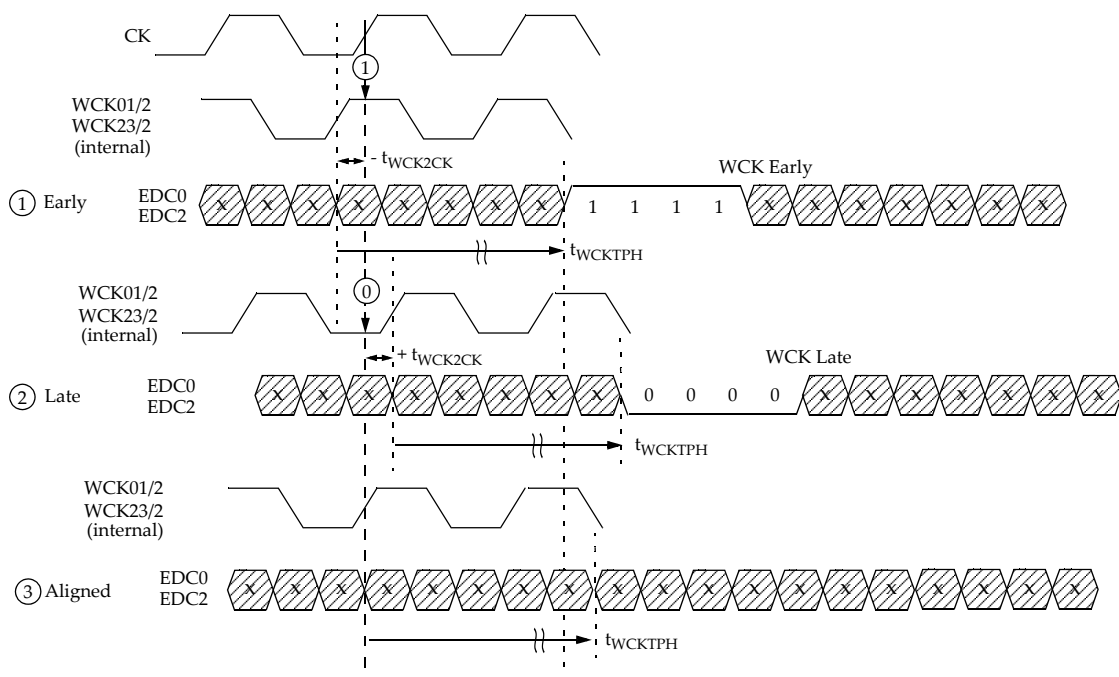

Figure 14 — EDC Pin Behavior for WCK2CK Training (Assumes '1111' as EDC Hold Pattern)
Figure 14 illustrates how the WCK phase information is derived. The phase detectors (PD) sample the internally divided-by-2 WCK clocks. Only one sample point is shown in the figure for clarity. In reality, when WCK2CK training mode is enabled, a sample will occur every t_{CK} and will be translated to the EDC pins accordingly. If the divided-by-2 WCK clock arrives early, then the EDC pin outputs the EDC hold pattern during the time interval specified in Figure 14. If the divided-by-2 WCK clock arrives late, then the EDC pin outputs the inverted EDC hold pattern during the time interval specified in Figure 14. This is shown in Table 12. **Finally, if the divided-by-2 WCK and CK clocks are perfectly aligned at the PD, the EDC pins are indeterminate.**